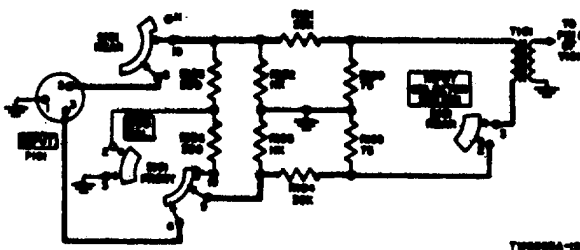

Figure 23. Balanced input circuit, simplified schematic diagram.
c. *Balanced Input* (fig. 23). With INPUT SELECTOR SWITCH S101 in the 600 BAL. position and a signal source connected to INPUT connector P101, the input circuit is similar to that for bridging, except that resistors R105 and R106 are connected across the input. The junction of the resistors is grounded through contacts 2 and 3 of the front section of switch S101.